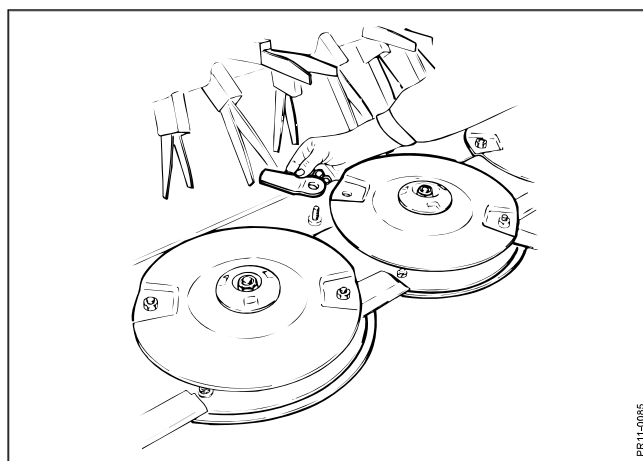

Fig. 5-12
- Fig. 5-12** To obtain a satisfactory harvesting it is important that blades and shearbar are intact and sharp. Replacement of blades is made by dismounting the blade bolt and pull it out from beneath the disc. This is easily done when the blade is in the front position so that the bolt can fall out through the hole in the stone protector. Remove the old blade and mount the new one together with the blade bolt. The blades can be used on both sides by moving the blades from one disc to another with opposite direction of rotation.